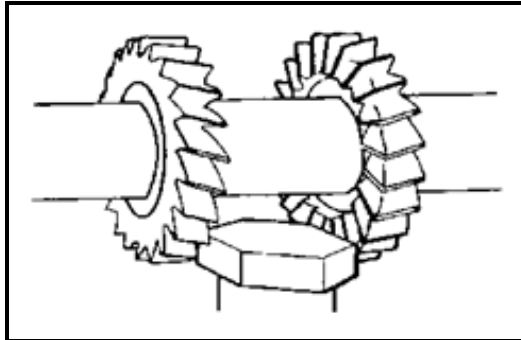

FIGURE 5.6
5.6 Identify the milling process shown in FIGURE 5.6 below.